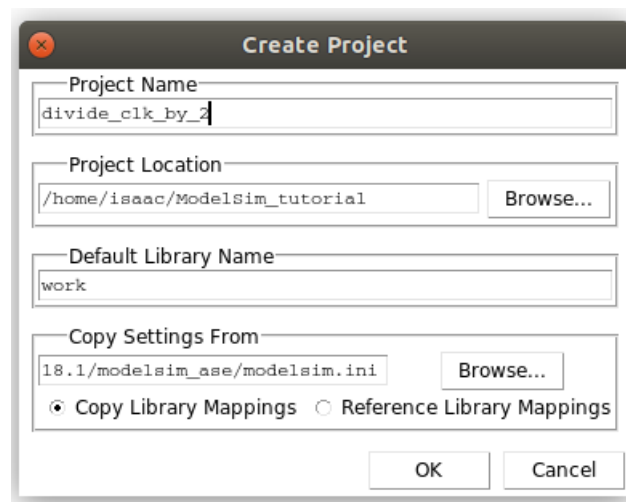

Figure 1: Project name and location.
3. Provide a name and a location for your project and click **OK**. You can select any project name you want. However, as shown in Figure 1, it is a good practice to match the name of your project with the name of your top-level SystemVerilog module.